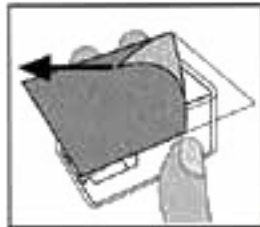

Figure 6-1
2. Grasp blister backing paper and peel away to expose the sterilized rigid plastic mount that holds the studs and clasps. BE SURE NOT TO TOUCH THE STUDS once the package is opened or the sterilization will be lost (Figures 6-1 & 6-2).